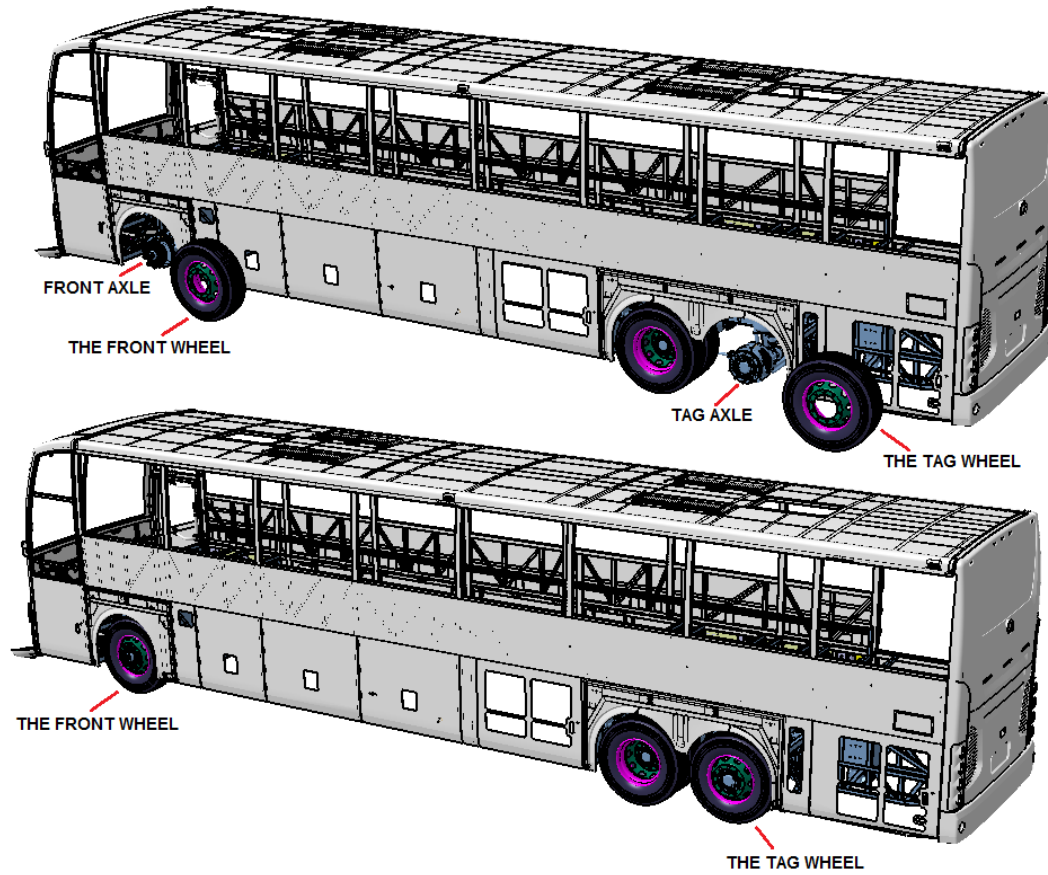

Figure-11
* Install tag and front wheels to the related axles shown in Figure-11.